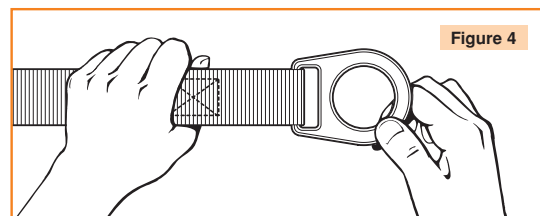

Figure 4
- 4. Inspect stitching or rivets at hardware attachment points.** For stitched attachment points, check that stitching is not broken, burned, cut, or pulled. Check all riveted attachment points for tightness. Badly pitted rivets indicate chemical corrosion, and they should fail inspection. (See Fig. 4)